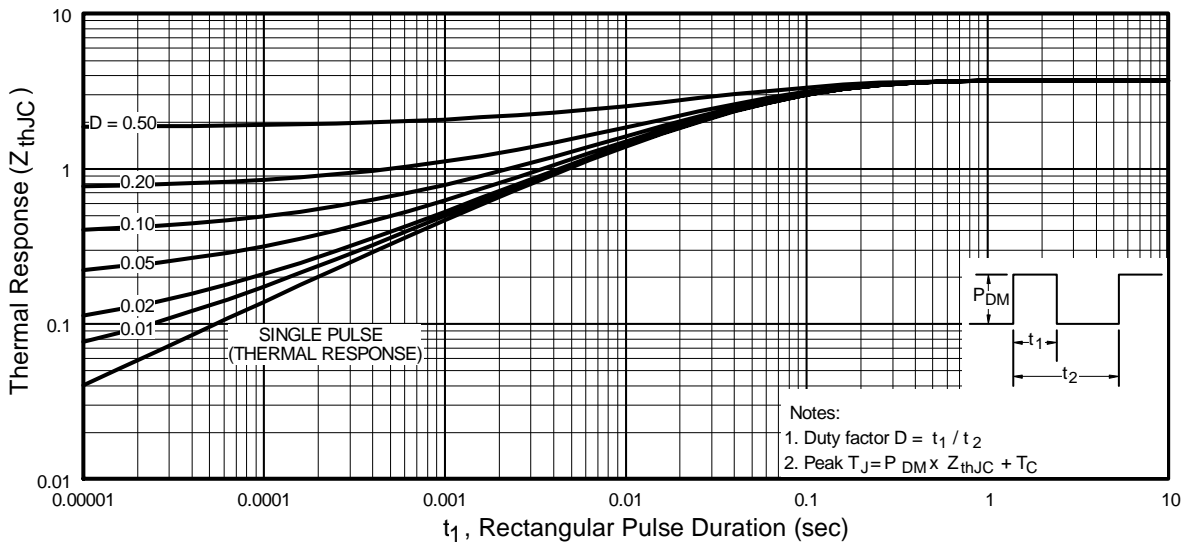

Fig 11. Maximum Effective Transient Thermal Impedance, Junction-to-Case
- ① Repetitive rating; pulse width limited by max. junction temperature. (See fig. 11)
- ② $V_{DD} = 15V$, starting $T_J = 25^\circ\text{C}$, $L = 3.1\text{mH}$